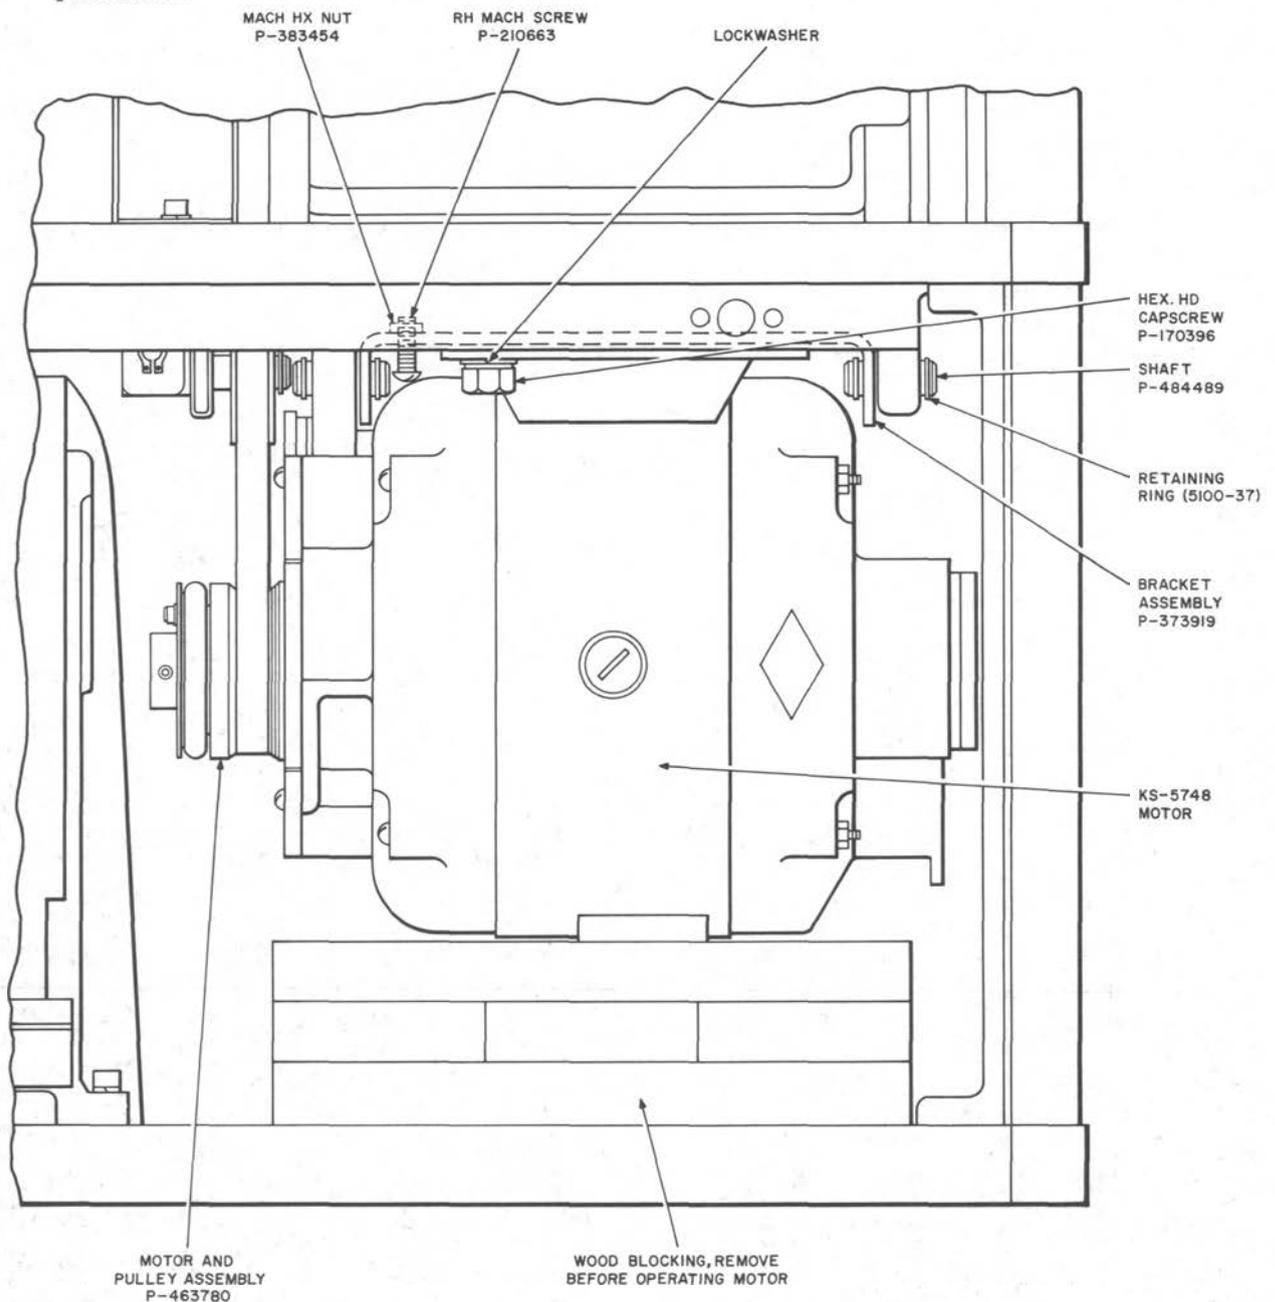

Fig. 63—Motor in KS-13834 L1 Perforator
- (7) Fasten the bottom of the perforator to the mounting brackets using the slotted hexagon head screws furnished with the perforator.
- (8) Fasten the back of the perforator to the frame uprights using the round head screws and hexagon nuts. These are inserted from the rear of the frame through the tapped holes in the mounting bars and extended through the slotted holes in the mounting brackets located at the top rear of the perforator.
- (9) Place nuts on the screws and securely tighten to lock the perforator in position.
- (10) Remove the hoisting chain from the perforator.
- (11) Remove the wood blocks used to protect the perforator during shipment. The blocks must be removed before operating the motor (Fig. 63).